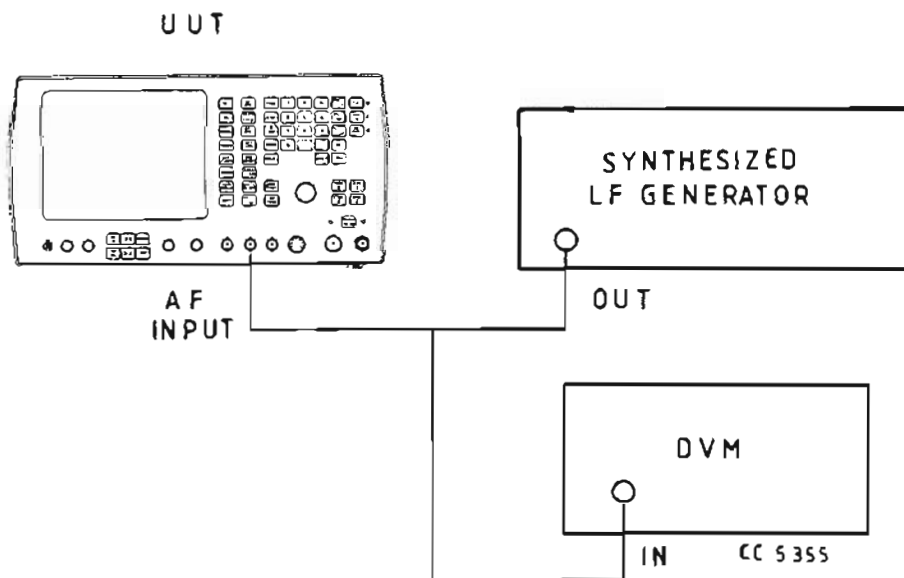

Fig. 8 Test equipment connections for voltmeter frequency response performance checks
- (1) Connect the equipment as shown in Fig. 8.